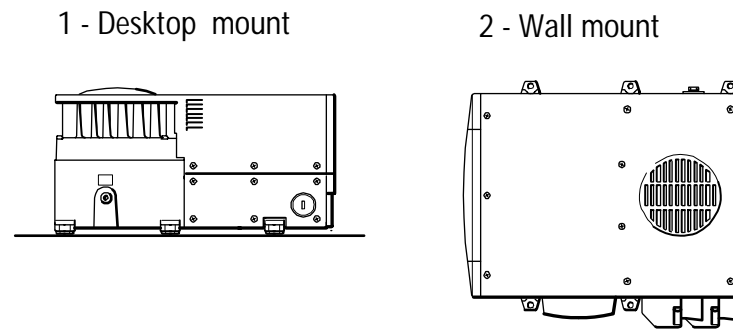

Figure 4 Approved Mounting Orientations
Orientation	To meet regulatory requirements, the MS2000 must be mounted in an approved mounting orientation. See Figure 4 on page 19. These orientation restrictions are designed to stop dripping water, due to condensation in damp marine environments, from getting inside the MS2000.
2. Mounting considerations are shown in Figure 4 on page 19 and described in Table 3 on page 19.
4. Select an appropriate mounting location and orientation. To meet regulatory requirements, the MS2000 must be mounted in one of the two orientations shown in Figure 4.